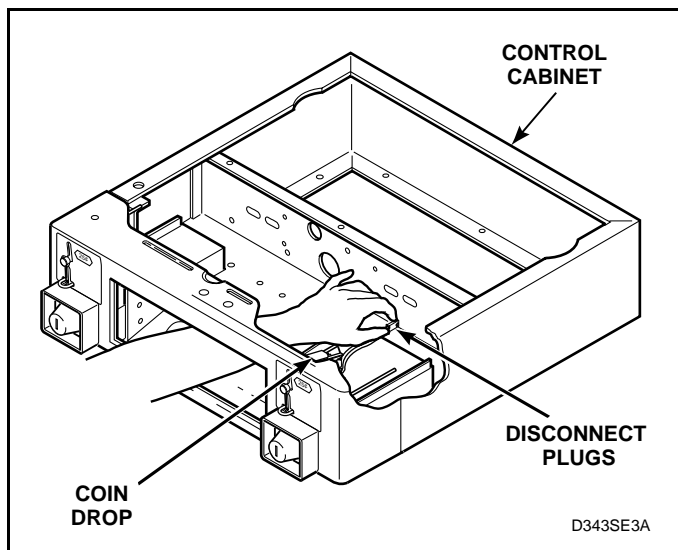

Figure 18
- (6) Reach into control cabinet to feel position of coin drop. Disconnect coin drop harness at disconnect plug. See *Figure 18*.
- (6) Reconnect coin drop harness plug. See *Figure 18*.